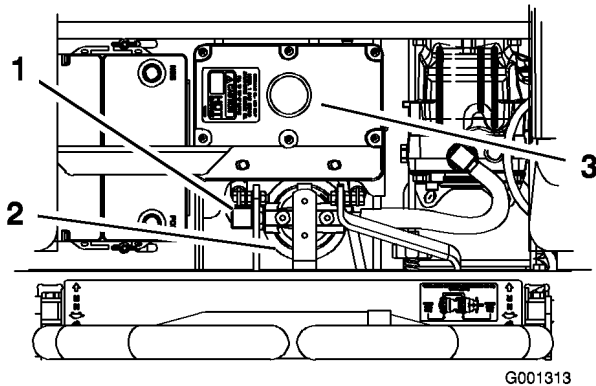

Figure 68
4. Remove the righthand hydraulic line that comes into the adapter (Figure 68).
6. Install the righthand hydraulic line to the adapter (Figure 68).